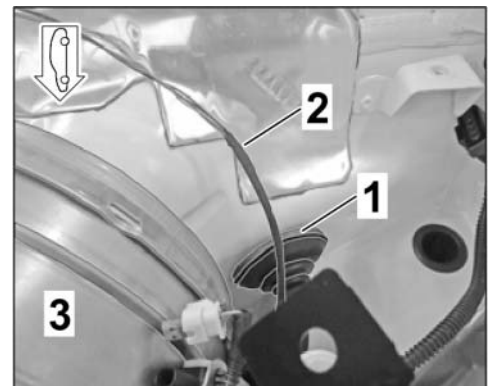

Figure 12
2.3.3 Remove grommet on bulkhead (LHD vehicle: left side ⇒ *Figure 12*).